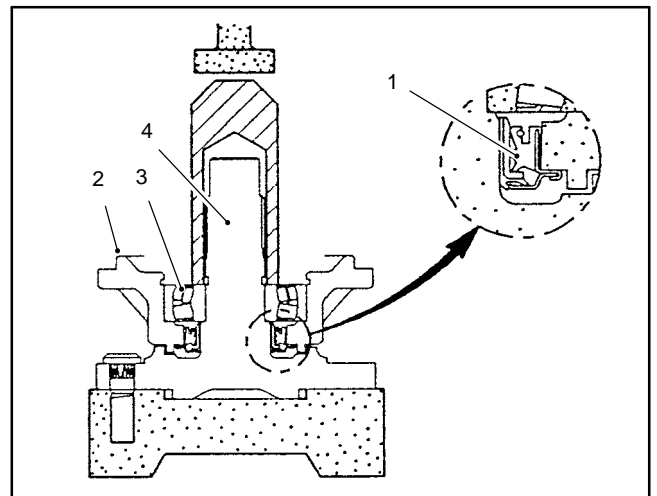

Figure 29
1. Coat new axle shaft seal with grease and install in axle cover as shown (Fig. 29).
2. Press the axle cover and bearing assembly onto the axle shaft. Press only on the inner race of the cover bearing (Fig. 29).